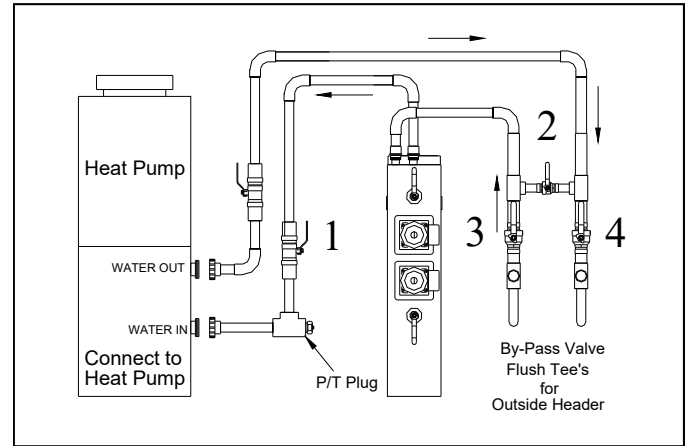

Fig. 4. Recommended Schematic For Use with Underground Headers; Flush Cart Required
Fig. 4 illustrates a recommended piping schematic for a system with underground headers.
1. Refer to **Fig. 4**, close valves 3 and 4.
3. After all air has been eliminated and full flow established, close valve no. 2 (See Fig. 4) to place the system back into full operation.